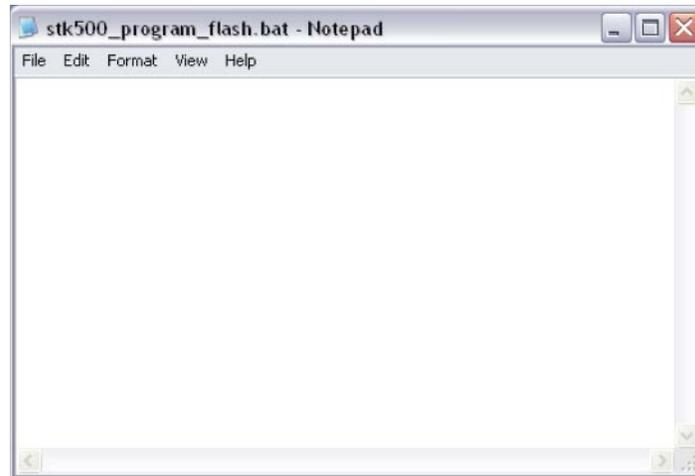

Figure 4.44 Screenshot of the Notepad editor opened to the empty file “stk500_program_flash.bat”.
- 4.4.3.11 Click the X in the top-right corner of the editor window to close the Notepad application shown in Figure 4.44.